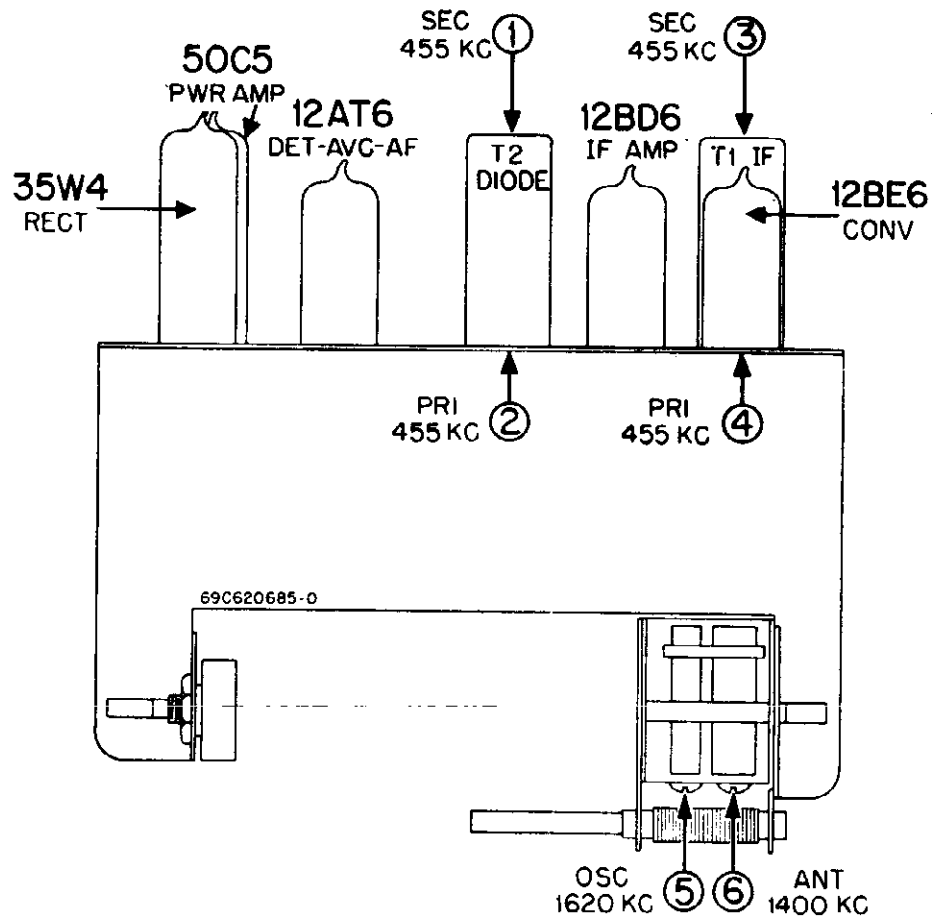

FIGURE 4. TUBE AND ALIGNMENT LOCATIONS
7. See Figure 4 for adjustment locations and the follow chart for procedure.